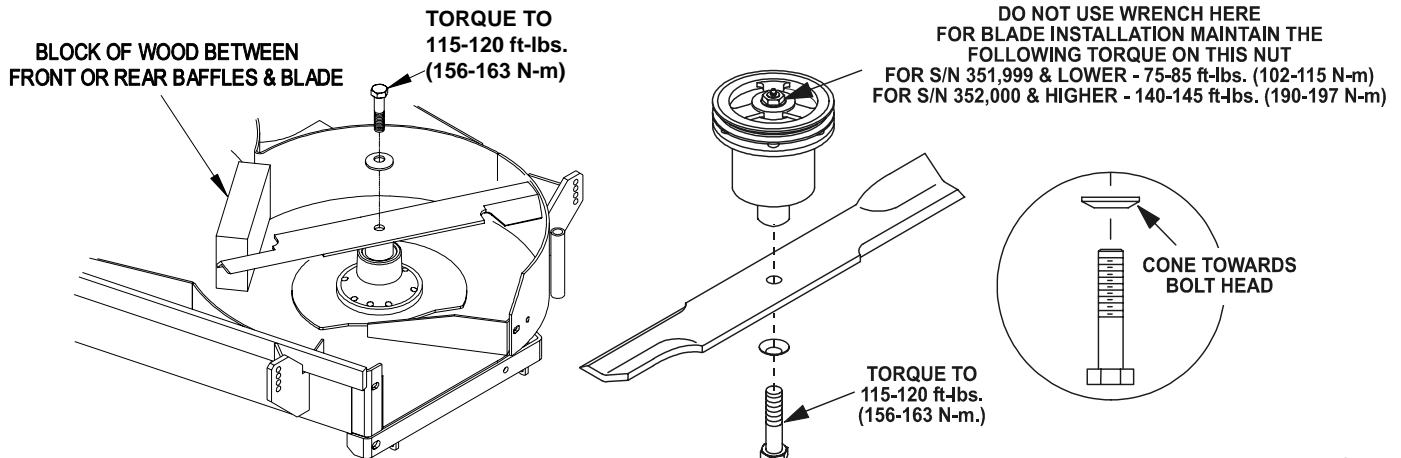

FIGURE 5
- d) Re-install the blades (if they were removed) by placing a block of wood between the front or rear baffles and the blade then torque the blade bolts to 115-120 ft-lbs. (156-163 N-m). Be sure the spring disk washer cone is installed toward the bolt head (See Figure 5).